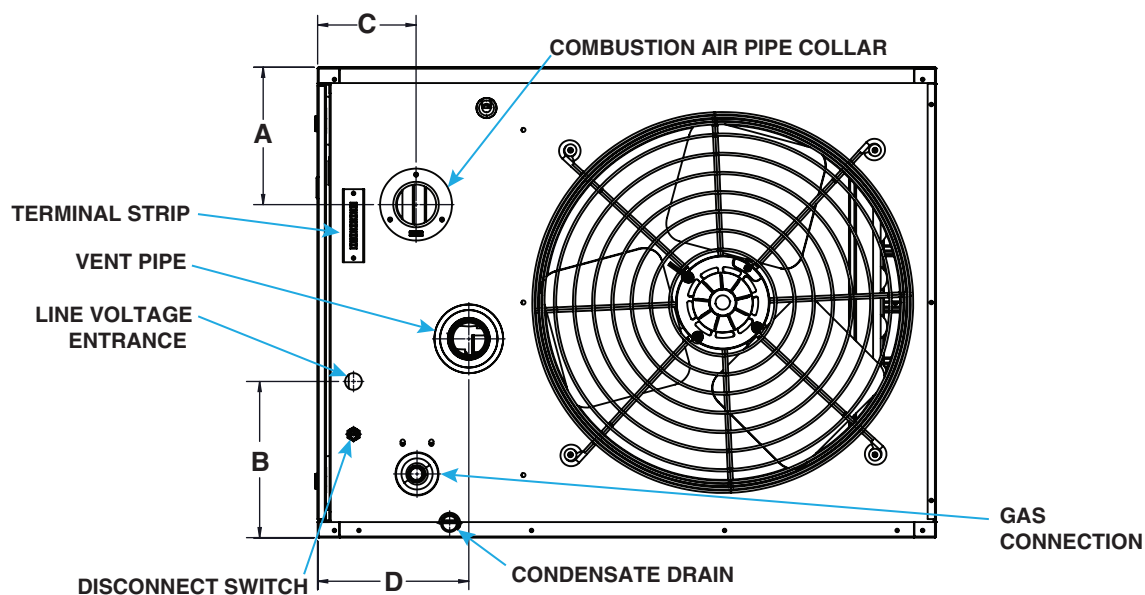

Figure 4. Connections at Rear of Unit—Unit Sizes 55–110 (Refer to Table 8)
- The venter outlet and combustion air inlet are located at the rear of the heater (see Figure 4).
Dimension (See Figure 4) or Connection	Unit Size (MBTUh)